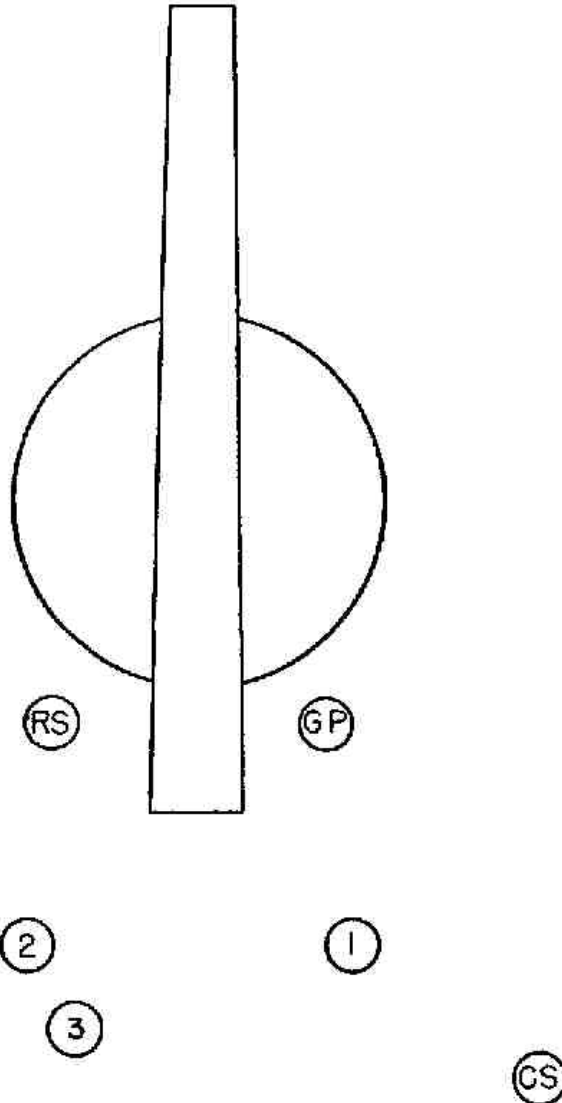

FIGURE 2.—DETAILS, POSTS.
c. He commands: 1 DETAILS, 2. POSTS, when the section arrives in rear of the emplacement and supervises the procurement of equipment. After all details have reached their posts (fig. 2), he commands: EXAMINE GUN. He then makes an inspection of the gun, carriage, and other matériel, paying especial attention to the recoil cylinder, firing mechanism, safety devices, and oiling of the various bearings. He receives the reports of the chief of ammunition and of the various details of the gun squad and reports to the officer in charge of the emplacement, "Sir, No. ——— in order," or reports any defects which he is unable to remedy without delay.